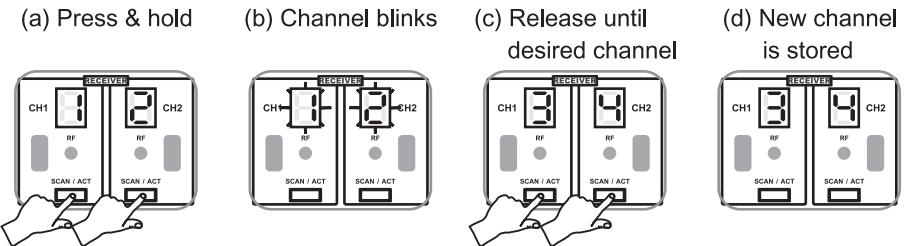

Fig. 4
- (2) Manually Forcing a Channel Change: Press & hold the SCAN/ACT button until current channel blinks. Release the SCAN/ACT button until a desired channel is reached. This will force the receiver to change to the next available clear channel, Fig. 4.